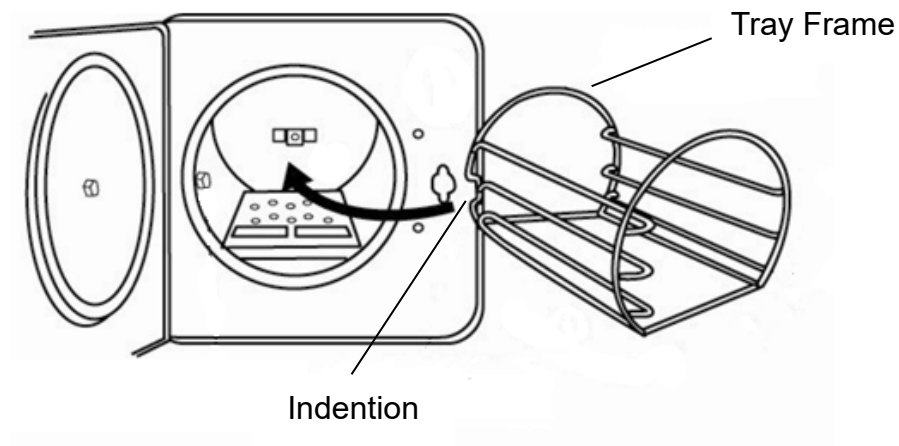

Figure 6 – Tray Frame
- D. Install the tray frame as Figure 6. (optional accessory)
⚠ Caution: The frame should be installed as Figure 6 below. The indentation of the frame will pass the bushing in the chamber.